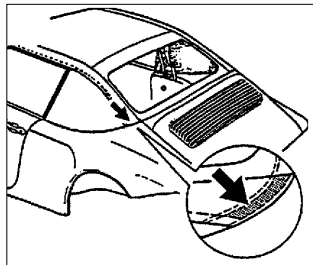

Figure 8
- Refer to drawings 2 and 3 on page 9. Copy these drawings and cut them out. Place the cut-out onto the vehicle top on the correct sides and check its contour against that of the vehicle (Figure 8).
- Flip up the Cabrio top material in the area as shown in Figure 8.